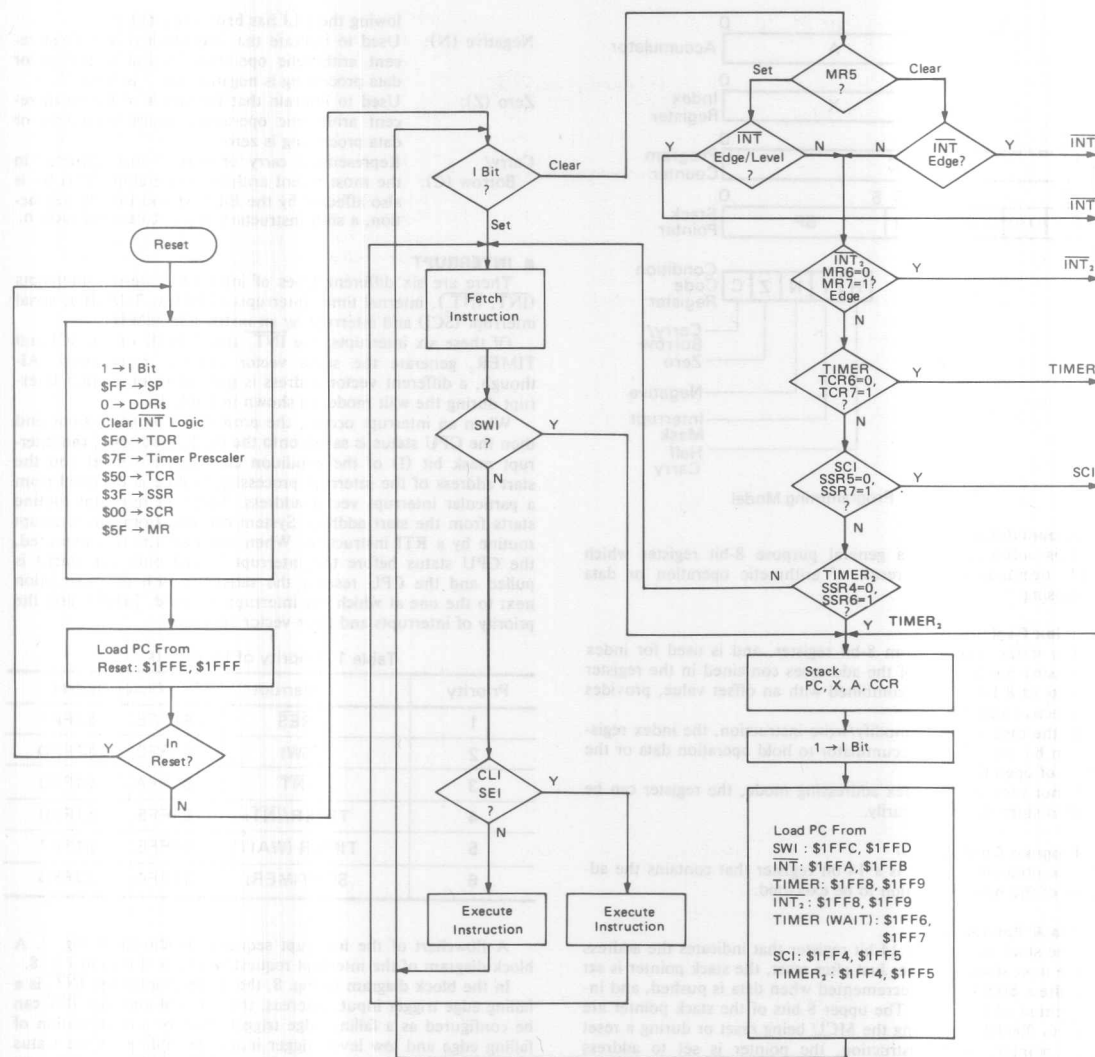
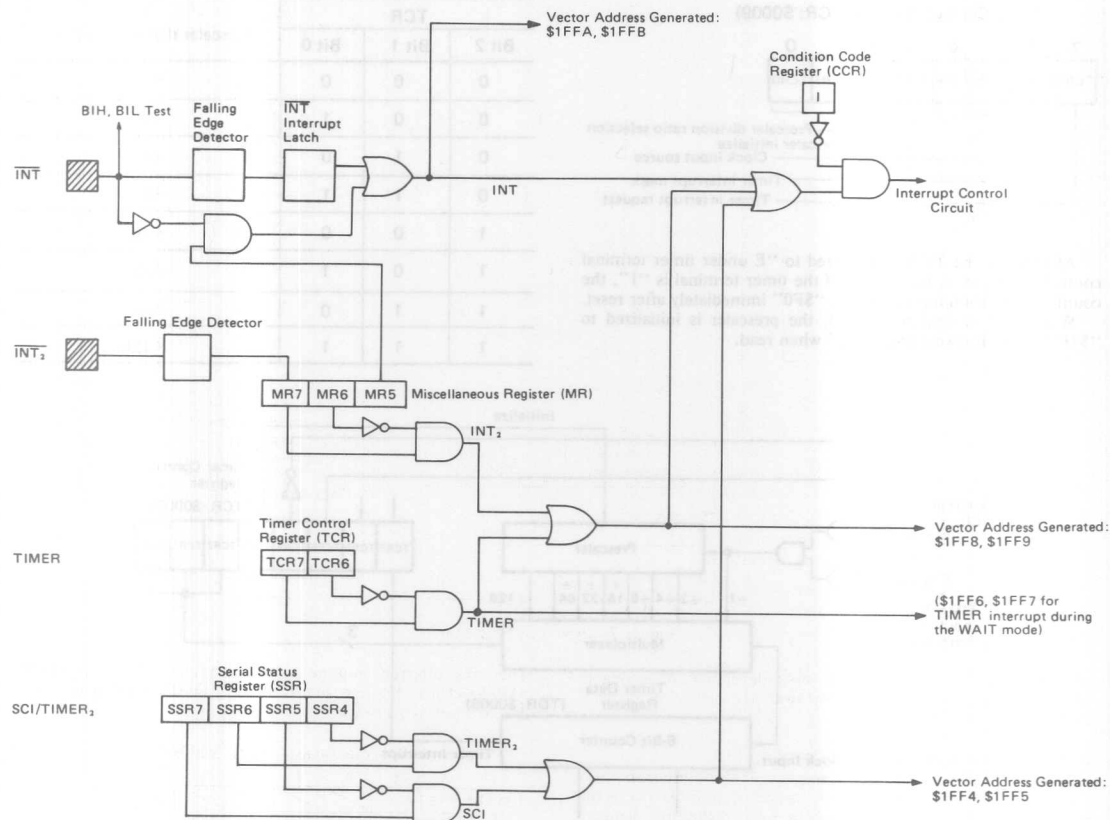

Figure 7 Interrupt Flowchart
Figure 8 Interrupt Request Generation Circuitry
A flowchart of the interrupt sequence is shown in Fig. 7. A block diagram of the interrupt request source is shown in Fig. 8.
In the block diagram of Fig. 8, the external interrupt INT₁ is a falling edge trigger input, whereas, the external interrupt INT₂ can be configured as a falling edge trigger input or a combination of falling edge and low level trigger input, depending on the status of bit 5 in the miscellaneous register (MR). When an interrupt request is detected at the INT₂ or INT inputs, an interrupt request is generated and latched. The INT interrupt request is automatically cleared if jumping is made to the INT processing routine. Meanwhile, the INT₂ request is cleared if "0" is written in bit 7 of the miscellaneous register.